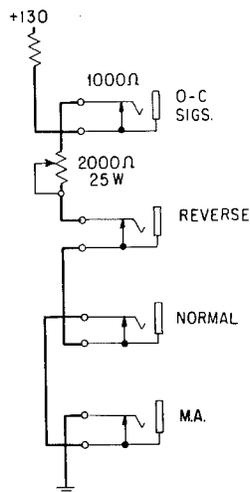

Fig. 11 – Dummy Loop
4.12 Connect a source of undistorted test signals to a dummy loop. The 1A and 100A test sets provide 5-element 60-, 75-, or 100-speed signals, and the 1B set provides 8-element 100-speed signals. Use the 2P31A cord. See Fig. 11 and 17. Insert the 359A plug (shorter one) into the INPUT jack of the 164C3 or 164C4 set and then insert the 347A plug into the NORMAL jack of the dummy circuit. The polarity of the current in Fig. 11 is such that the NOR-REV switch should be set at NOR. If other circuit arrangements are used, set the NOR-REV switch on NOR if the voltage on the tip of the 359A